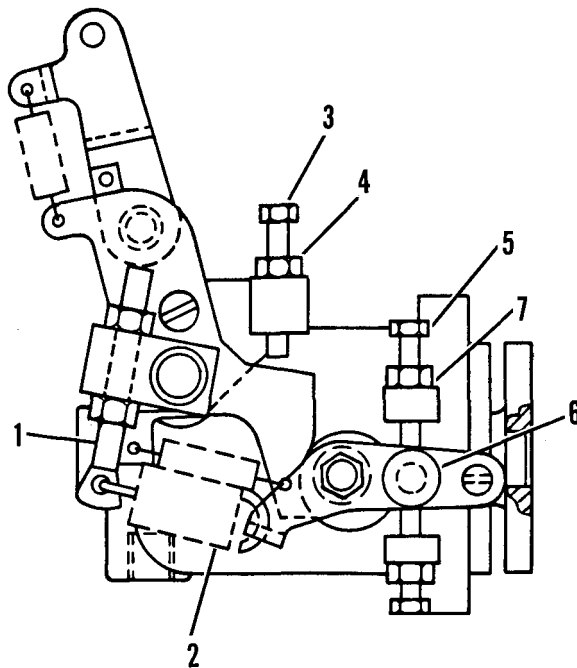

Figure 4-36. Governor Droop Adjustment.
4-45. GOVERNOR DROOP ADJUSTMENT. (See Figure 4-36).
- (8) Loosen maximum fuel screw (3, Figure 4-36) using two wrench method and back out maximum fuel screw counterclockwise one quarter turn. Tighten locknut (4) using two wrench method.
- (9) Adjust droop screw (1) to the center of its travel.
- (10) Check droop. Repeat steps (1) through (5).